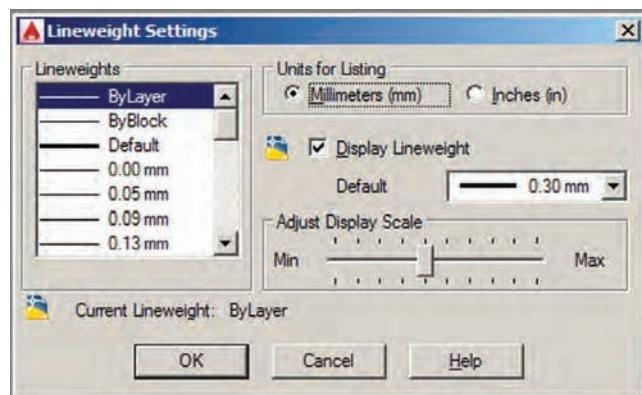

**FIGURE 3.2** Setting up grid spacing and toggling on Snap
4. Type **DS** and press Enter to open the Drafting Settings dialog box. Change Grid X spacing to 1" (or 10 for metric) and press Tab; Grid Y spacing updates with the same value. Set Major Line Every to 12 for Imperial (or 10 for metric) so that you'll see darker grid lines every foot. Notice that Snap spacing is set to 1/2" (or 10 mm) by default. Select Snap On and verify that the Grid Snap and Rectangular Snap radio buttons are selected in the Snap Type area (see Figure 3.2). Click OK.
2. Select the PolarSnap radio button in the Drafting Settings dialog box. Type **1"** (or **10** for metric) in the Polar Distance text box (this dialog was shown in Figure 3.2). Click OK.